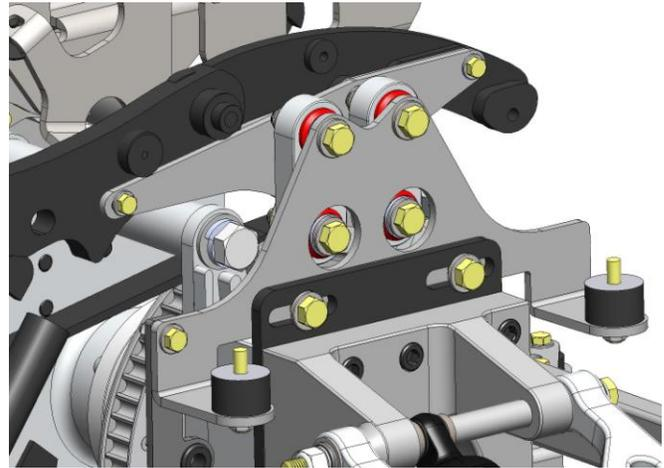

Figure 9
- a. Raise unit to Top Frame and install 1/2-13x1-1/2" bolts, washers and nylock nuts. Snug the bolts, these will need to be loosened for rocker alignment done later. See **Figure 9, 10, and 11**